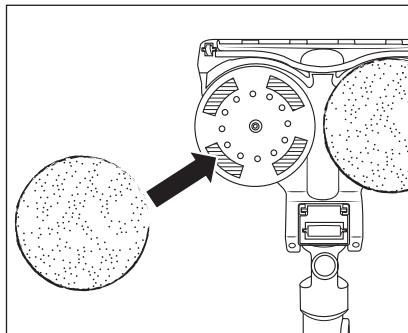

Fig. 17
- ◆ To fit a mop pad 34 to the mop attachment 31, place it centrally on one of the two rotating plates on the underside of the mop attachment 31 (see Fig. 17). Then press it firmly onto the hook and loop strips of the rotating plate.